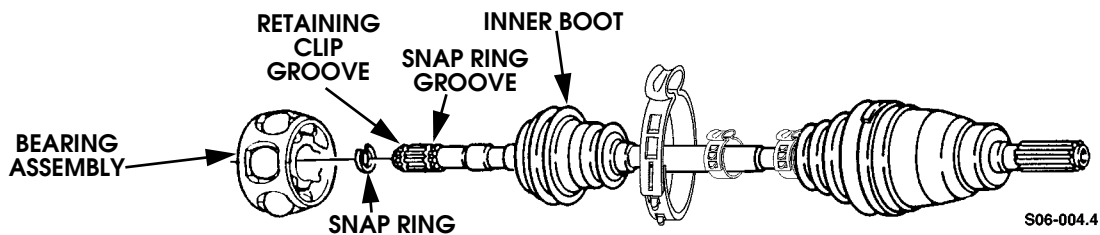

Figure 9-46: Halfshaft Boot Replacement
10. Move outer race up on shaft to allow for better access to inner race (Figure 9-46).
11. Locate snap ring adjacent to inner race. Remove snap ring from groove and slide up on shaft (Figure 9-46).
14. Remove outer race, snap ring, and inner boot from shaft. (Figure 9-46).
8. Install the snap ring and retaining clip into grooves on shaft (Figure 9-46).